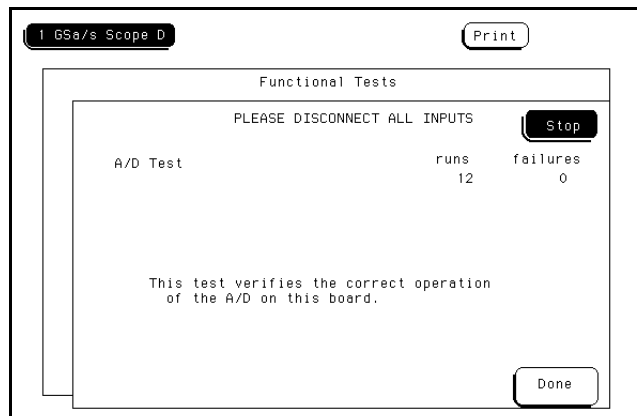

Figure 6-8. Stop Field
9. To stop a Repetitive run, touch **Stop**. See figure 6-8.